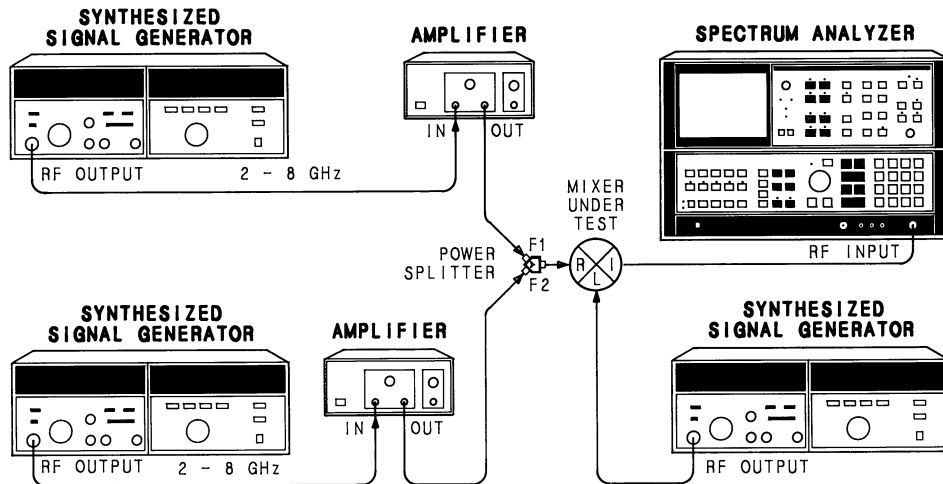

Figure 3-3. HP 11975A Used as an Isolation Amplifier and LO Booster for Mixer Characterization
- **LO Booster:** The HP 11975A can be used to increase LO drive level to improve mixer performance (Figure 3-3).
- **Isolation Amplifier:** The HP 11975A can serve as a buffer amplifier for mixer port isolation, source isolation, or any application requiring either a leveled or unlevelled buffer (Figure 3-3).